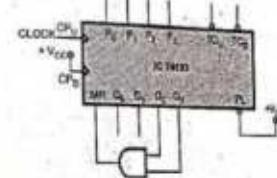

Fig. 5.12.16 Mod-12 up counter
- Connect the circuit shown in Fig. 5.12.16. The  $Q_2$  and  $Q_3$  outputs are NANDed and are connected to load input (with  $MR = 1$ ,  $P_0 = P_1 = P_2 = P_3 = 0$ ). As soon as the count reaches 1100, the counter is loaded with  $P$  inputs.